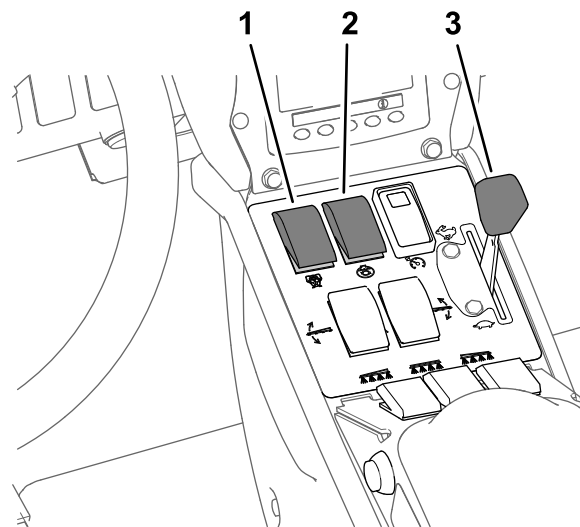

Figure 45
8. Set the agitation switch and the spray-pump switch to the ON position (Figure 45).
9. Set the throttle to the FAST position (Figure 45).
Note: This procedure assumes that the spray pump is on; refer to Figure 45 in Spraying in the Application Rate Mode (page 37).
4. Adjust the throttle to the desired engine speed to spray; refer to Figure 45 in Spraying in the Application Rate Mode \(page 37\).